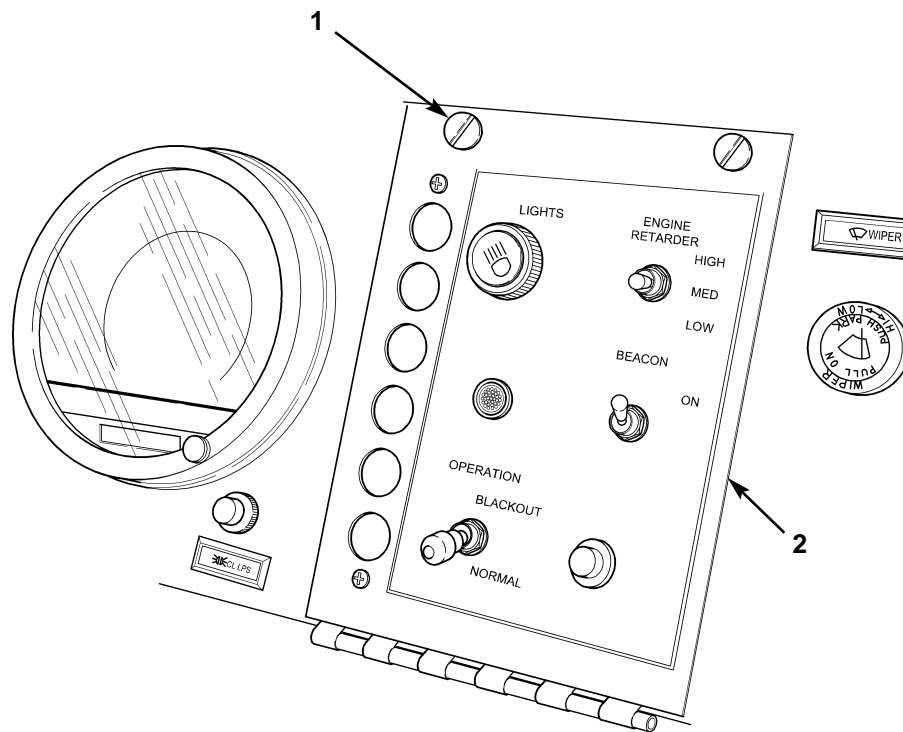

Figure 1. Opening Center Control Panel.
1. Turn two turnlock fasteners (figure 1, item 1) 90 degrees and open center control panel (figure 1, item 2).